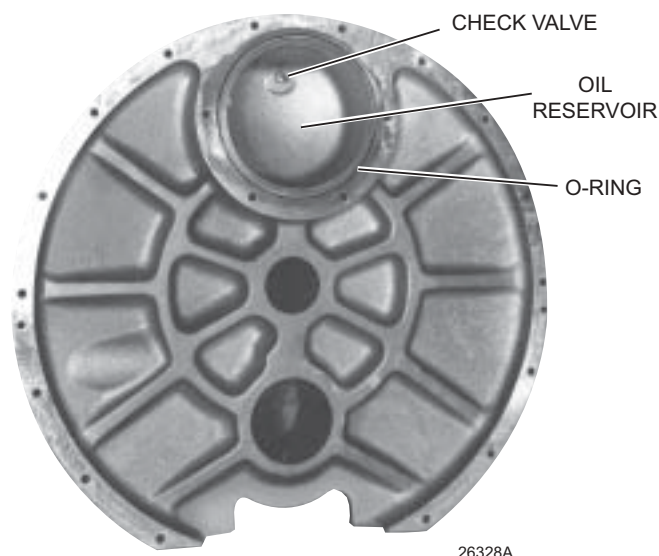

FIG. 53 – BEARING HOUSING
1. Install a new O-ring in the groove around the oil reservoir cavity (see FIG. 53). Coat the O-ring with a suitable O-ring lubricant to hold it in the groove.
2. Insert (2) guide pins 180° apart into the rotor support.